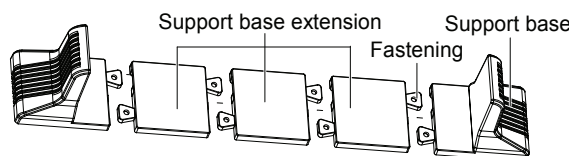

Figure 2-4 Connecting the support base with support base extension
2. If battery module installation is necessary, take out other support base extensions delivered with the battery module, and then assemble the support base extensions and the support bases through fastenings, as shown in Figure 2-4.